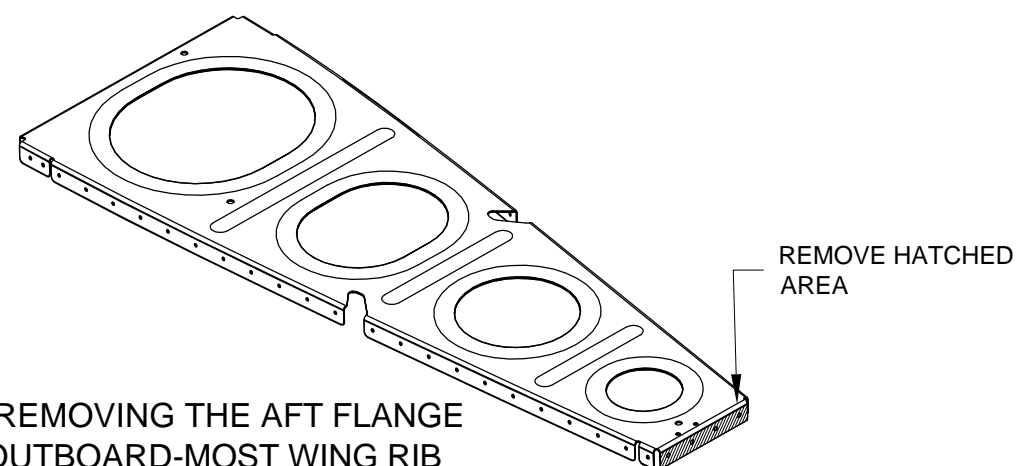

FIGURE 2: REMOVING THE AFT FLANGE OF THE OUTBOARD-MOST WING RIB
Step 2: Remove the aft flange but not the flange radius from the W-1012-R Outboard Wing Rib as shown in Figure 2.